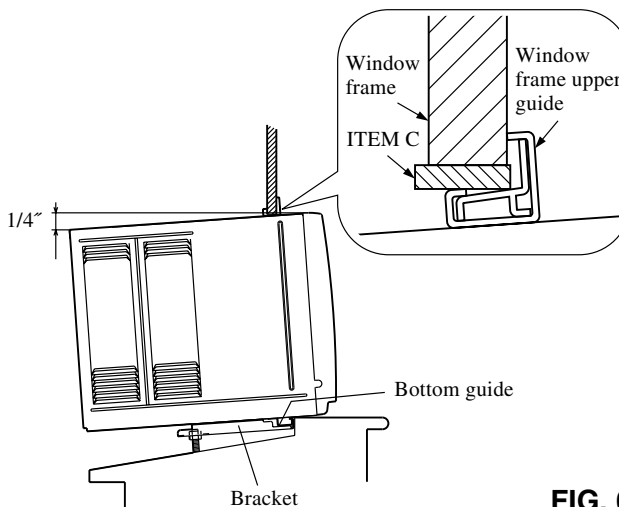

FIG. 6
- Readjust the leveling bolt as needed to adjust height of the outside end of the support sill bracket to the stool height, as shown in FIG. 6. Using a bubble-level, the air conditioner should be slightly (1/2 bubble) lower at rear of the air conditioner so that it will drain properly. Then tighten lock nuts with wrench or pliers.
- Cut the Sash seal (ITEM C) to the window width and set shown in FIG. 6.
- While steadying the air conditioner, carefully bring the window sash down behind the upper guide of the air conditioner, as shown in FIG. 6.